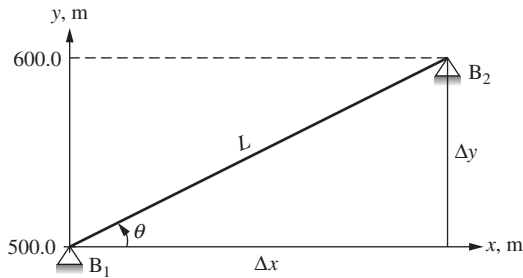

Figure P3.38 Elevation between the two benchmarks.
- 3-38.** Consider the elevation between the two benchmarks shown in Fig. P3.38. The distance L between the benchmarks B1 and B2 is 200 m, and their elevations are 500 m and 600 m, respectively.